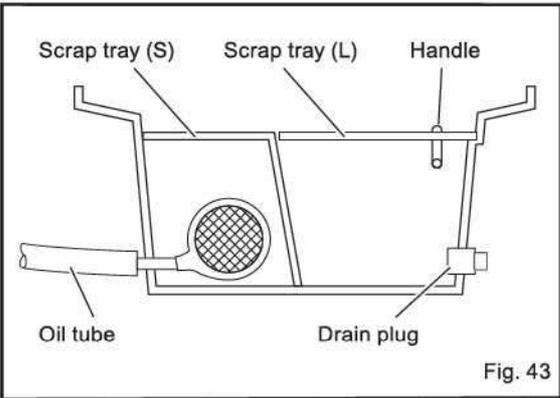

Fig. 43
3. Cleaning the oil tank (Fig. 43)
Fine chips of scrap accumulate in the tank, be sure to clean it at least once a month. (Fig. 43) This will improve the flow of cutting oil and prolong the life of the pump.